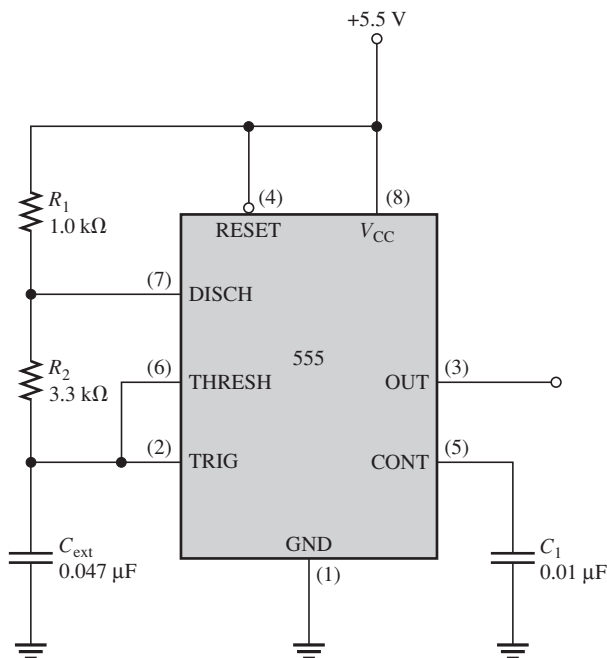

FIGURE 10–55
20. Determine the frequency of oscillation for the 555 astable oscillator in Figure 10–55.
21. To what value must C_{ext} be changed in Figure 10–55 to achieve a frequency of 25 kHz?